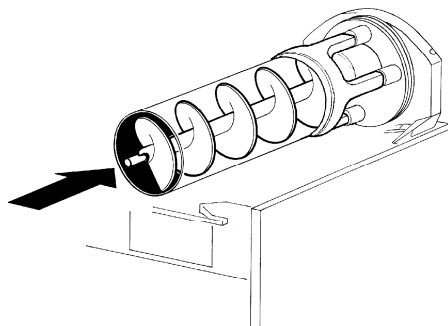

figure 15
- 5 - Insert the auger into the evaporator taking care to accompany it to the end so as to prevent it from hitting against the rear wall (see figure 15).